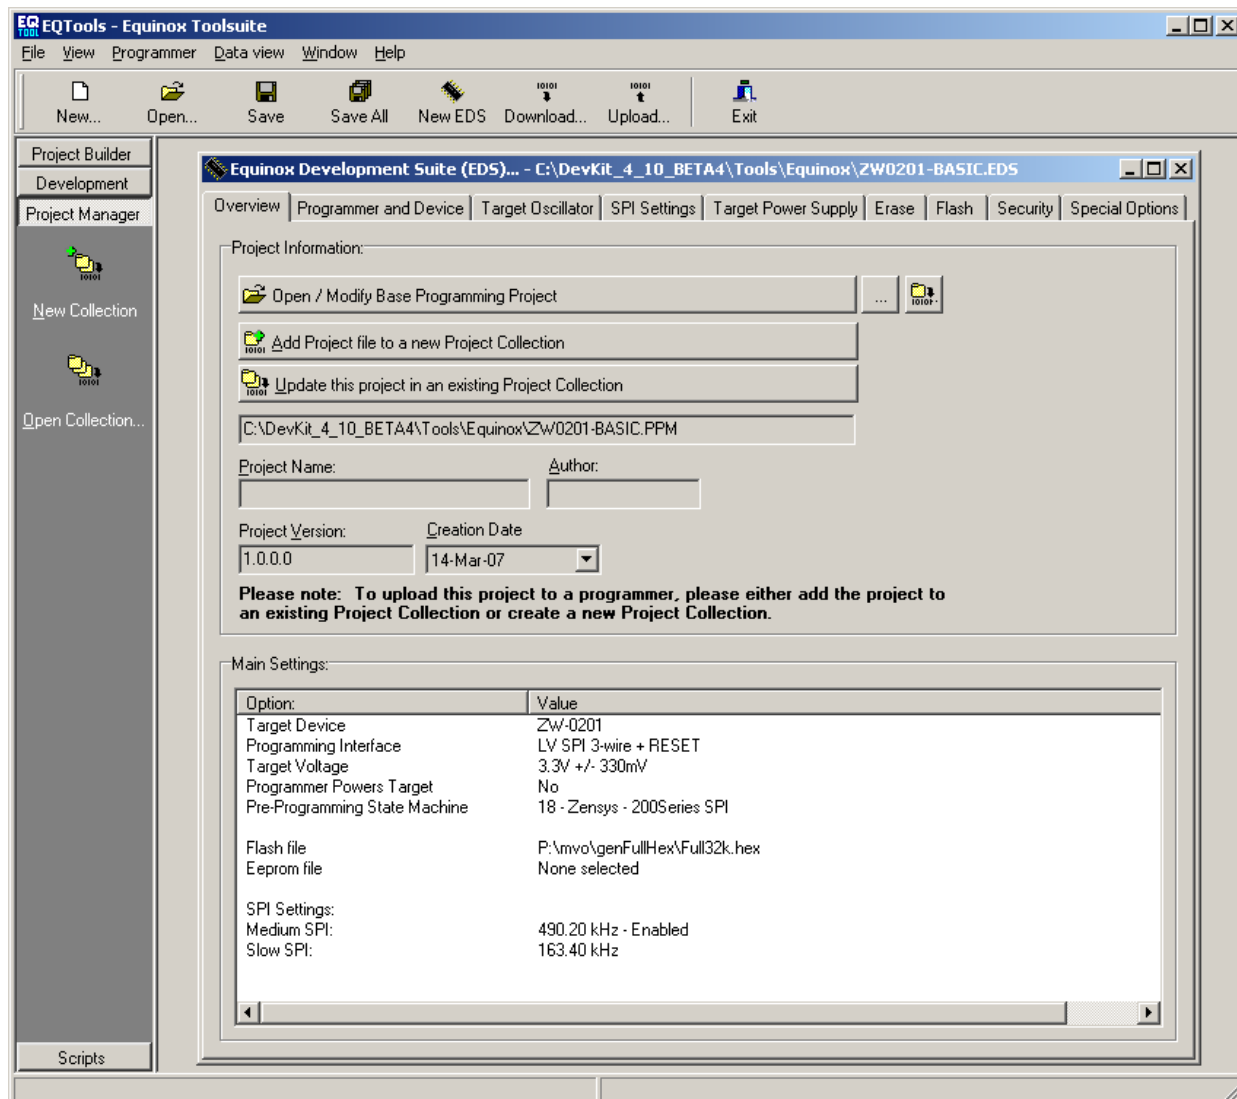

Figure 28 EDS mode window
2. Click the *Create a new EDS Development Project* icon , then the Equinox Development Suite window will open, as depicted in Figure 28.